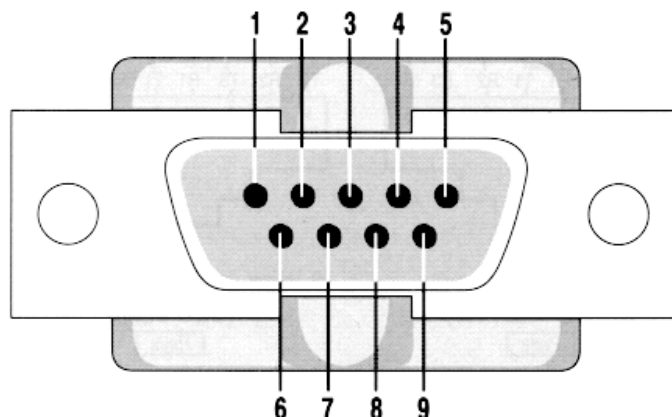

Figure 3. Pin numbering for a female 9 pin Sub D connector
PCs and other computer systems that have capability to communicate using the RS-232 standard typically use a DB-9 connector to interface with the communications wires. The pin number assignments for a female DB 9 connector are shown in Figure 3. The functionality of the DB 9 connector pins are made on the basis of the connector attaching to Data Terminal Equipment (DTE) or Data Communications Equipment (DCE). The DTE refers to the end device that uses or generates the information. It is the connector on the back of the PC. The DCE refers to equipment that transmits or receives analog or digital signals over the connecting media. It is sometimes called the modem (modulator / demodulator). The connecting media can be wire, fiber optic cable, water (in the case of acoustic modems), or space for cases such as radio frequency (RF) and infrared (IR) modems. Figure 4 shows the pin and functionality for a DTE to DCE connection. In this project, we will use only the Rx (DTE pin 2) Tx (DTE pin 3) and the signal common (pin 5). The pin assignment for PmodRS232 is that of a DCE device even though the PIC32 and the PC both generate and use the the information.